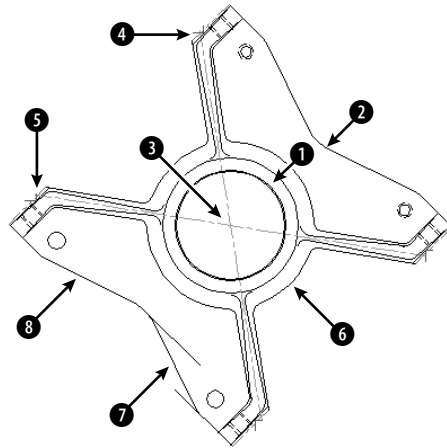

Figure 14-18: A bearing housing for an industrial washing machine.
2. Save the file as `ab14-04.dwg` in your `AutoCAD Bible` folder. This is a view of a bearing housing for an industrial washing machine, as shown in Figure 14-18. OSNAP should be on. Set running object snaps to endpoint, intersection, and center. If the Dimension toolbar isn't visible, right-click any toolbar and check `Dimension`.
4.  Choose Diameter Dimension from the Dimension toolbar. At the `Select arc or circle`: prompt, choose the outer of the two circles at ❶ in Figure 14-18. At the `Specify dimension line location or [Mtext/Text/Angle]`: prompt, pick a location for the dimension line.
5.  Choose Radius Dimension from the Dimension toolbar. At the `Select arc or circle`: prompt, choose ❷ from Figure 14-18. At the `Specify dimension line location or [Mtext/Text/Angle]`: prompt, pick a location for the dimension line. The line may appear to the left of the angle; try moving the cursor until the dimension appears to its right.
- Specify angle vertex: *Pick 3 in Figure 14-18.*
9. Start the DIMANGULAR command. At the Select arc, circle, line, or press ENTER: prompt, pick 7 in Figure 14-18. At the Second line: prompt, pick 8. At the Dimension arc line location (Mtext/Text/Angle): prompt, pick a location for the dimension line to the left of the model.